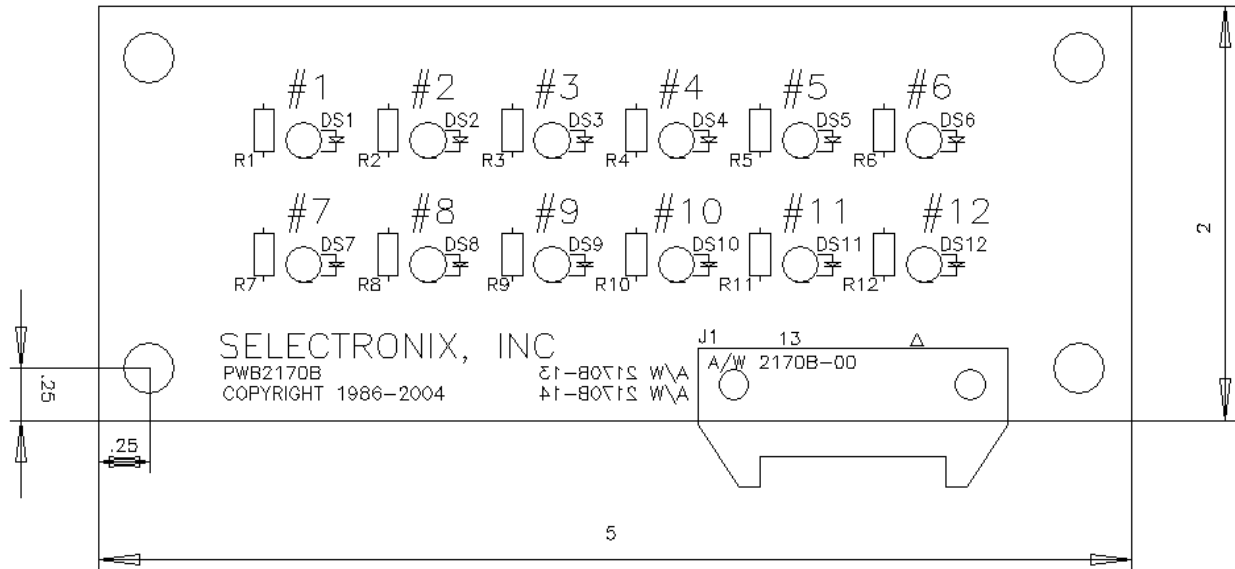

Figure 3 REMOTE INDICATOR PANEL BOARD LAYOUT
Refer to Figure 3 for the physical mounting dimensions.
- 2.3.8 Connect the appropriate sensor or input signal to the Control unit per the wiring diagram shown in Figure 3. See the shielding and grounding considerations in Section 2.3.